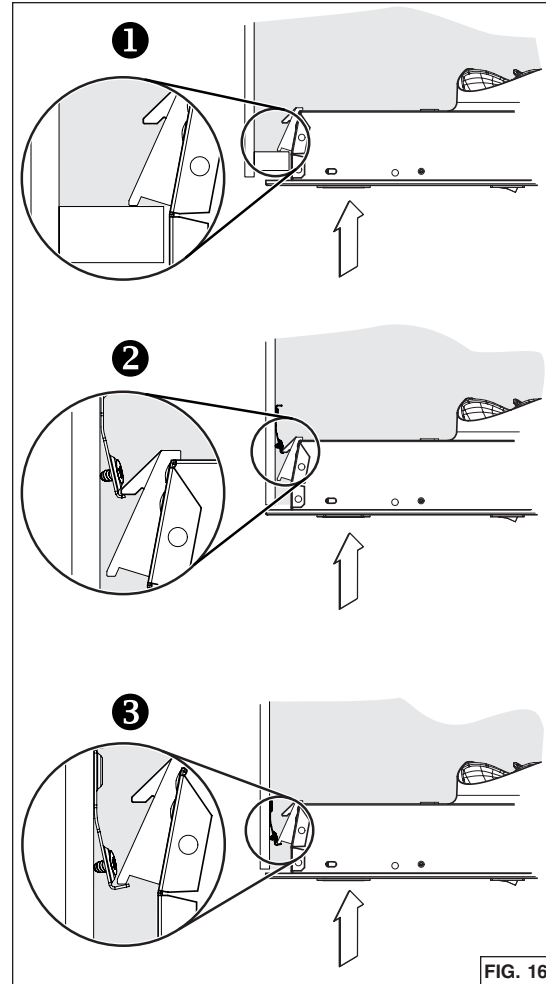

FIG. 16
2. Insert the unit in the cabinet, until you feel a 'click' from both sides of the unit, confirming that the Ease of Install Hooks rest on the top of the cabinet bottom sides ❶, or cabinet brackets ❷ or ❸ (FIG. 16). Move the unit from left to right, from rear to front and up to ensure the Ease of Install Hooks are retaining the unit inside the cabinet.